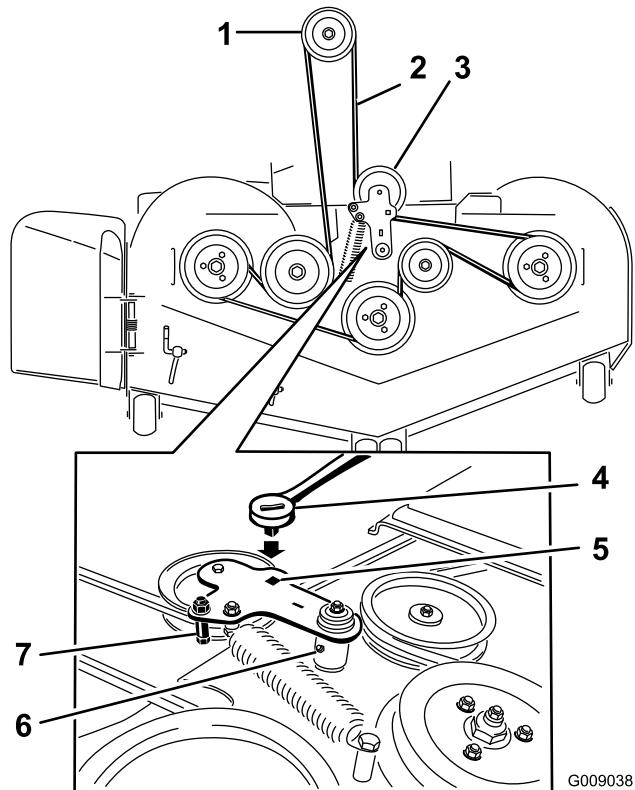

**Figure 72**
4. Remove the belt covers and the bolts attached to them (Figure 72).